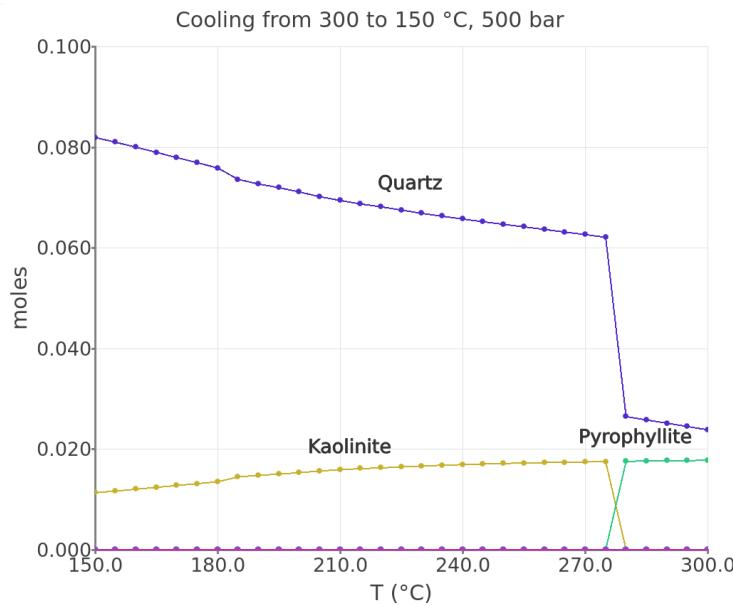

Figure 2.21: Cooling model showing the feldspar reaction path between 300 and 150 °C in 5 °C steps at a fluid/rock ratio of 100.
- Now you can plot and tweak your results to look similar to Figure 2.21).